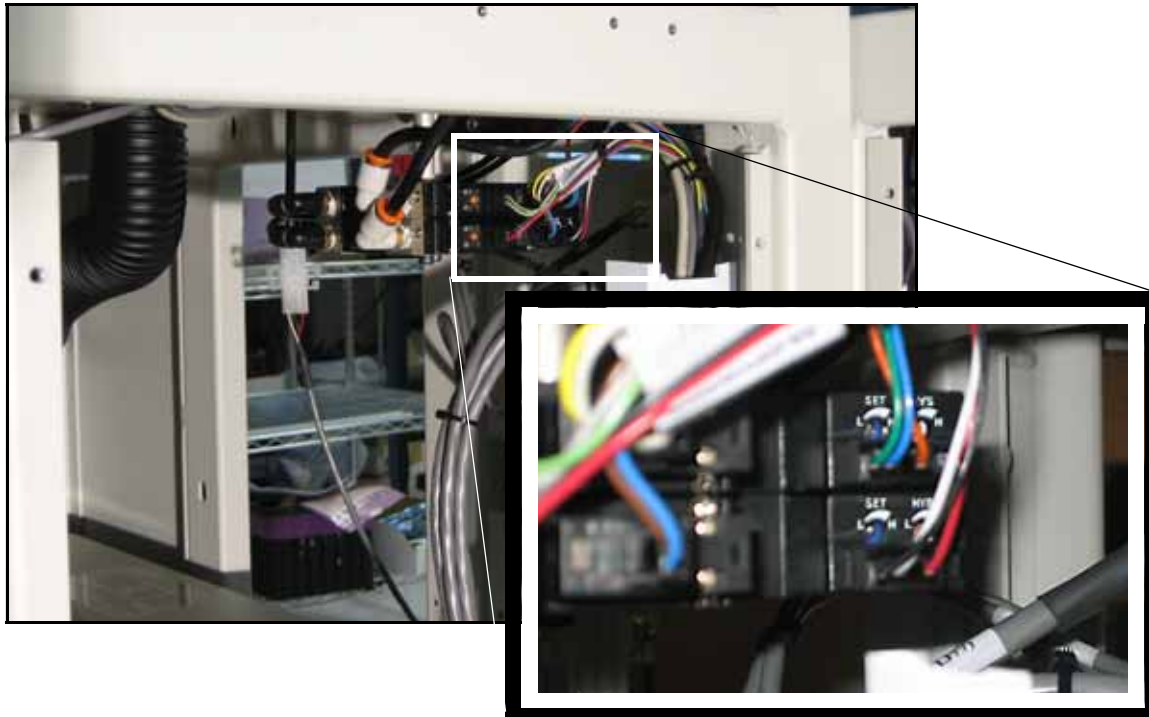

Figure 4-18: Pedestal 1 and Pedestal 2 vacuum generator adjustments. Pedestal 1 vacuum generator is on top.
*Note: Refer to Figure 4-18 for Step 3 through Step 5.*
- 3a. Locate the HYS and SET screws on the vacuum generator block. Using a small flat screwdriver, rotate the hysteresis (HYS) screw all the way counterclockwise. See Figure 4-18.